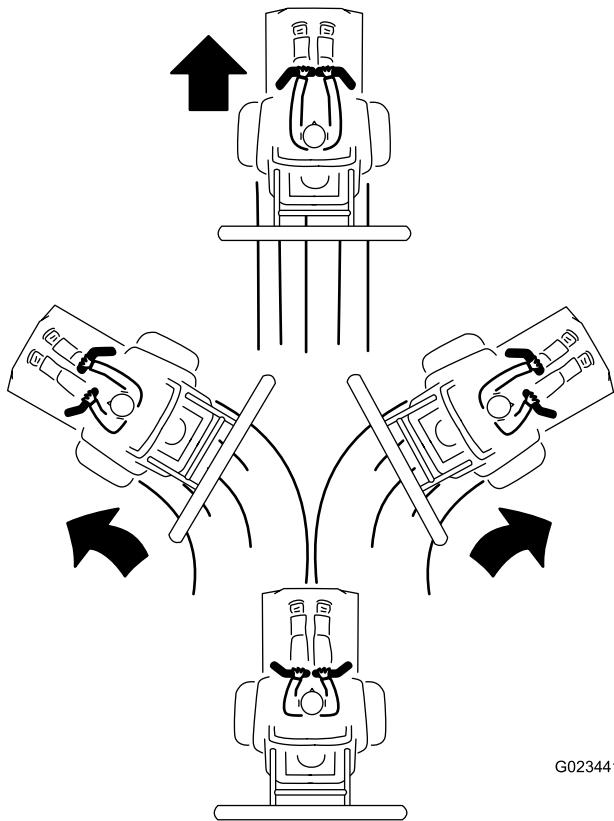

Figure 24
3. To go forward, slowly push the control handles forward (Figure 24).